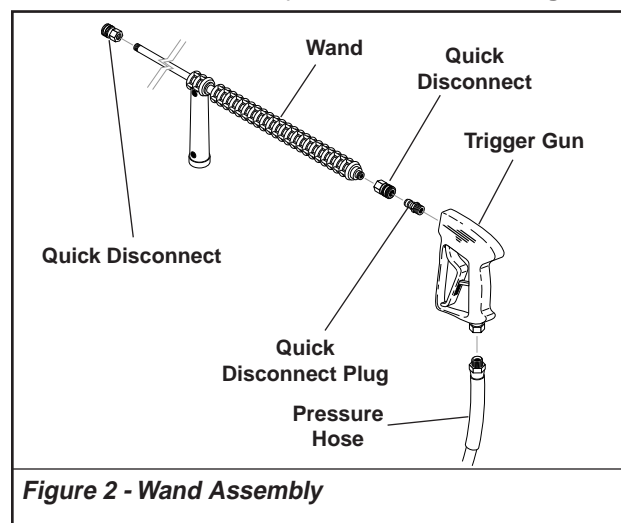

Figure 2 - Wand Assembly
3. Assemble wand components as shown in **Figure 2**.